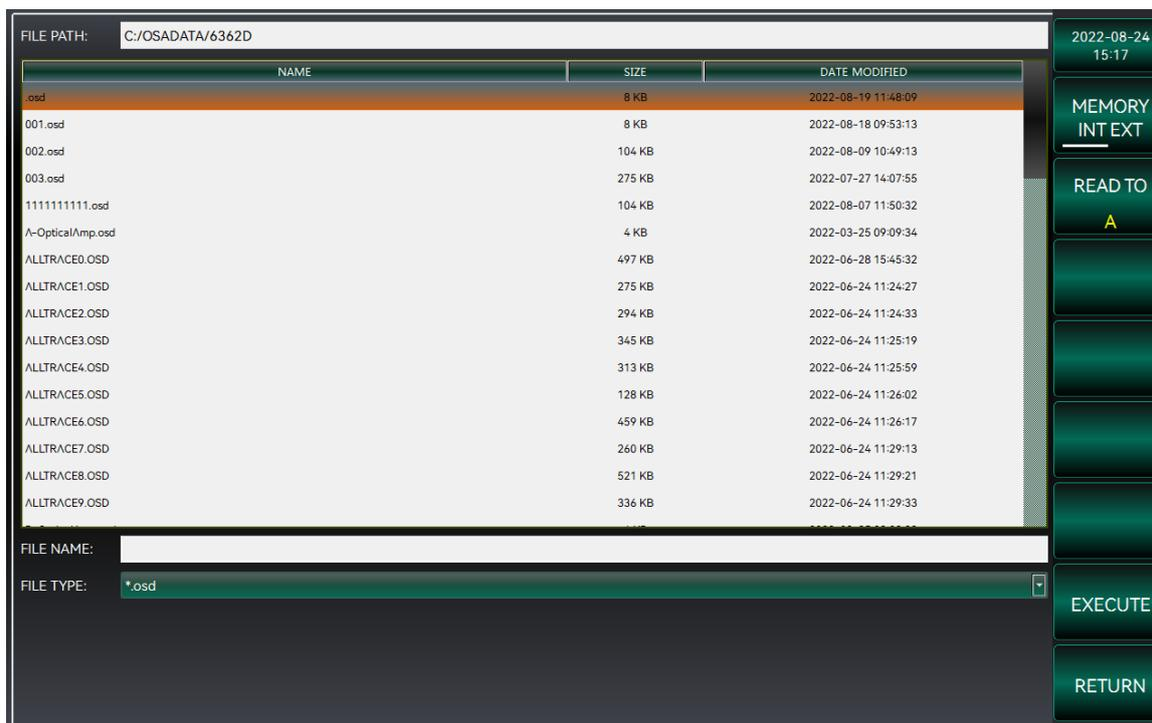

Figure 3-15 File open interface diagram
1. When the [Read] option is selected, the system will enter the file processing interface, as shown in Figure 3-15.